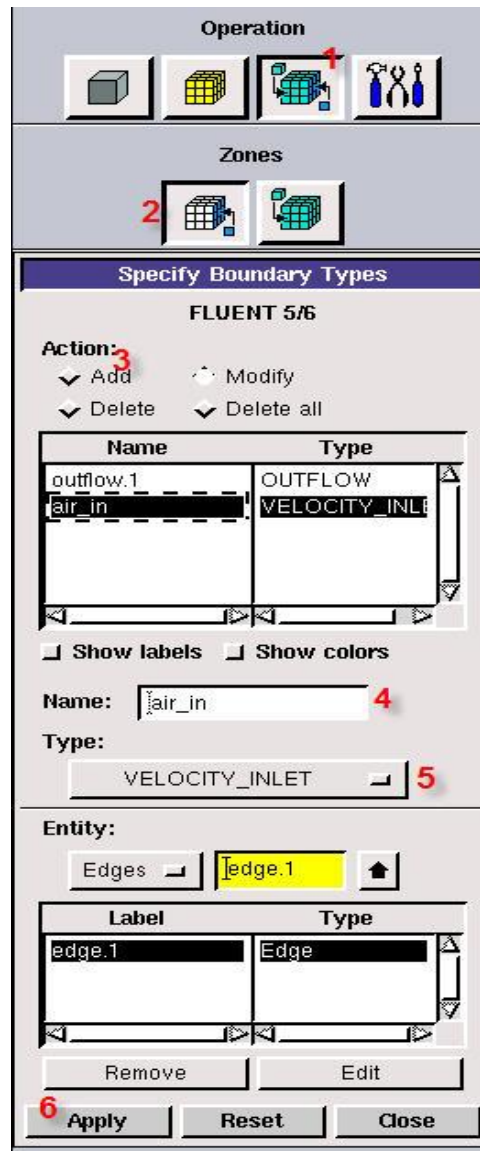

Figure 2.9 Steps to specify boundary conditions
The airflow inlet is the left-hand side boundary of the simulation domain and the airflow outlet is the right-hand side boundary of the simulation domain. In the **Operation Toolpad**, follow the steps illustrated in Figure 2.9 to specify airflow inlet and outflow. Select **Zones Command Button (1)** >> **Specify Boundary Types Command Button (2)** >> press **Add (3)** >> give a name for the boundary (4) >> select **boundary type (5)** >> use hot keys “**shift + mouse left click**” to select appropriate boundary >> press **Apply (6)**. Similar approach was adopted to specify the airflow outlet boundary condition. The boundary type for the airflow inlet is **velocity_inlet** and the boundary type for the airflow outlet is **outflow** in this report.